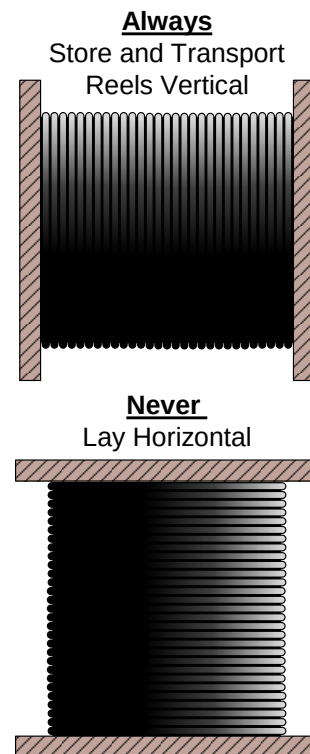

Figure 1
5.3 Transport and store Tube Cable reels with their flanges vertical at all times. If placed horizontal, the weight of the upper coils can bare down and potentially compress / damage lower coil tubes. **See Fig. 1.**